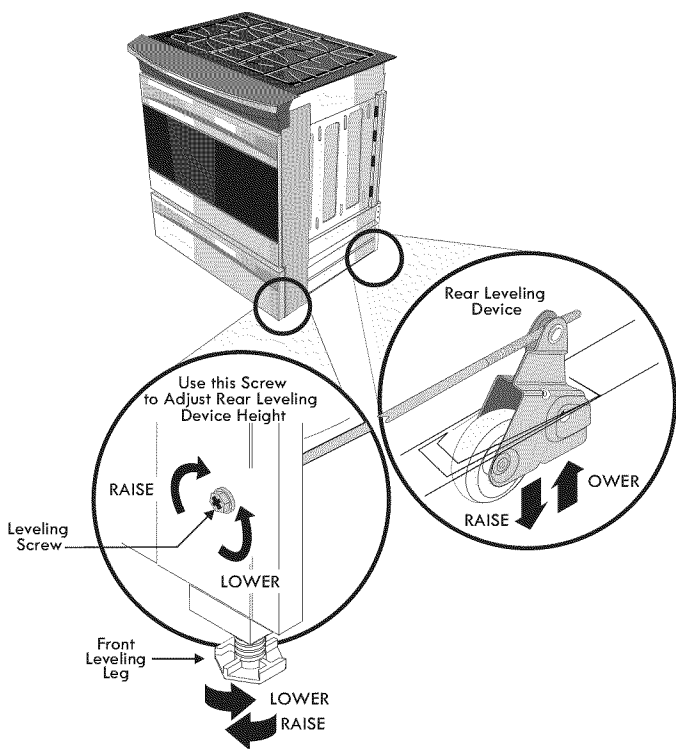

Figure 11
2. Adjust the appliance legs as follows until the underside of the cooktop (or cooktop glass) surface is sitting level on the countertop (Figure 11).